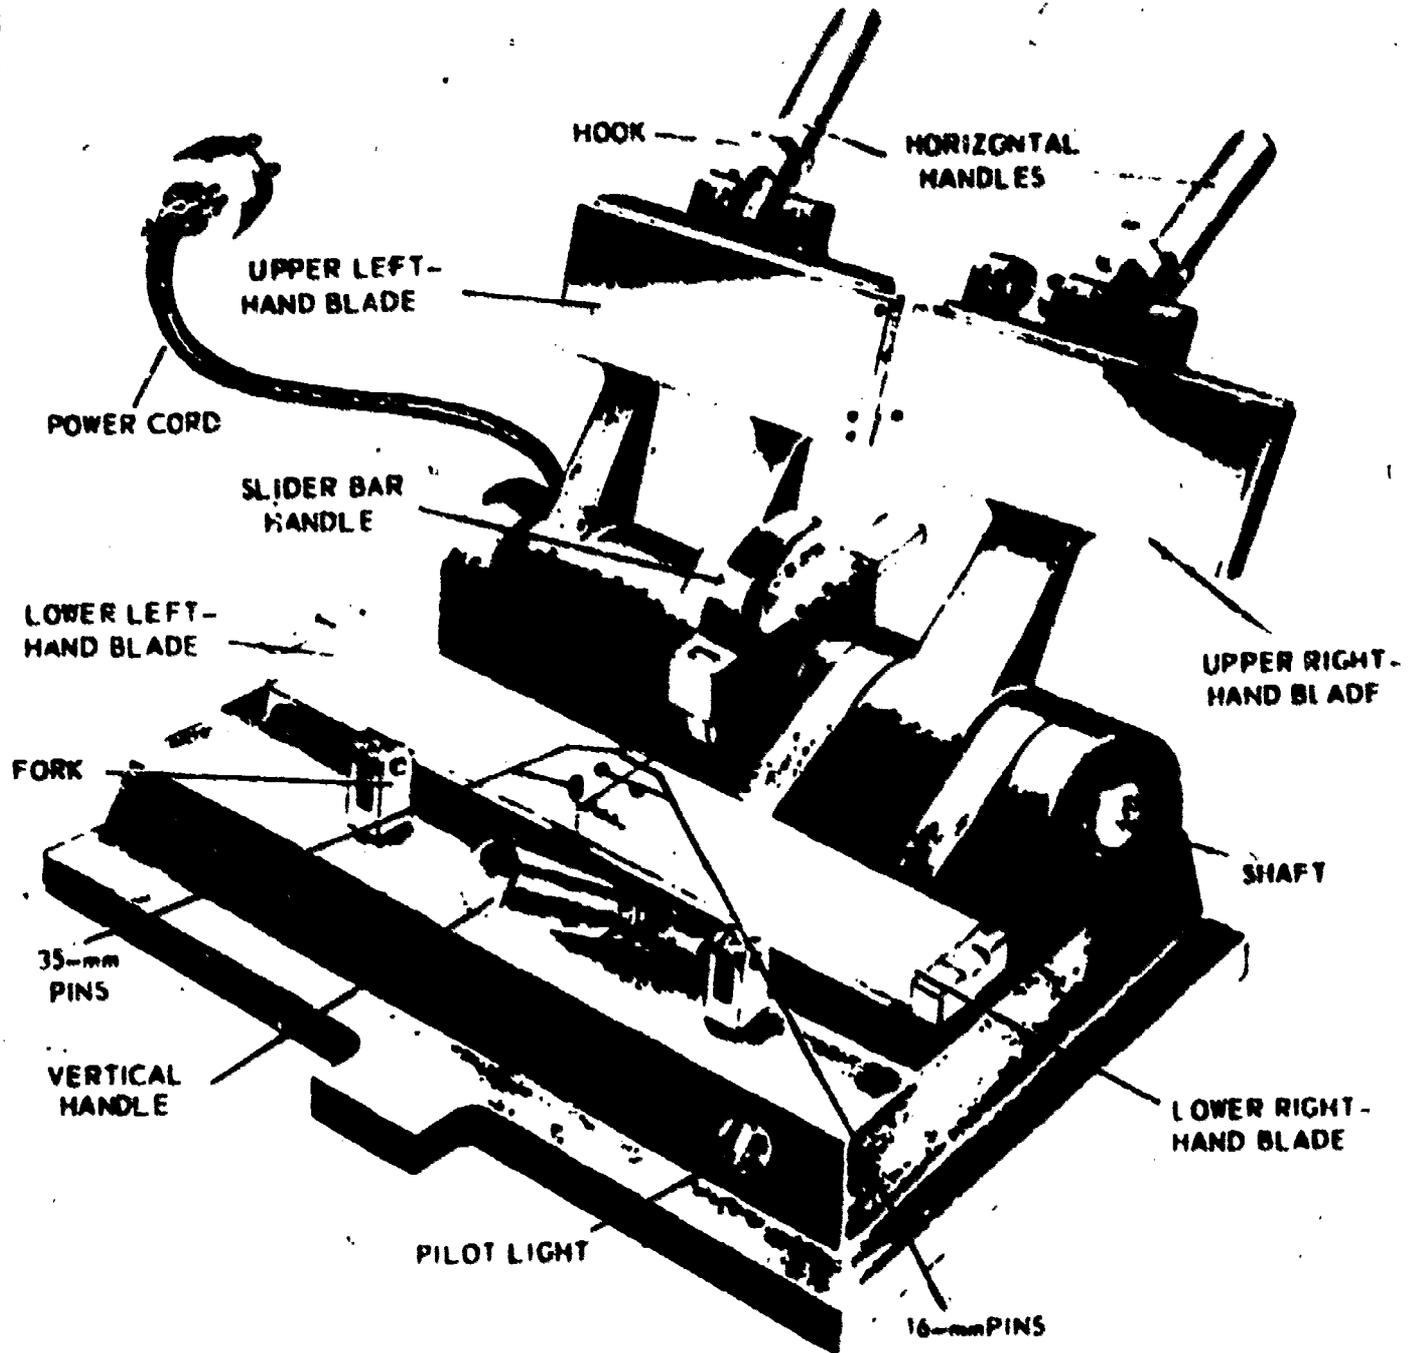

Figure 3-7. Design 198 Splicing Machine
DESIGN 198 SPLICER. There are various kinds of splicers in use. Some are manually operated, requiring the use of both hands. Others are motorized to move along lengths of film quickly between splices and are controlled by foot pedals. These are found in very large organizations. A manual splicer most often used in the average processing laboratory is a commercial product and is illustrated in figure 3-7. Known as the Design 198 splicer, it is designed specifically for professional and semiprofessional work on 16mm and 35mm films. This splicer is compact and easily portable, and it is capable of handling heavy-duty work with comparable ease.
The 198 splicer operates on 110/120-volt alternating current. To one side of figure 3-7, a power cord is permanently attached to the unit. All electrical components are hidden within its base. The unit is designed to allow instant change from splicing 16mm films to splicing 35mm films. This conversion is made possible by the retracting 16mm perforation pins when the splicer is set for 35mm operation, as shown in Figure 3-7.
1. Raise bot. upper blades to their top position as shown in Figure 3-7. The right lower blade must be left in its down position.